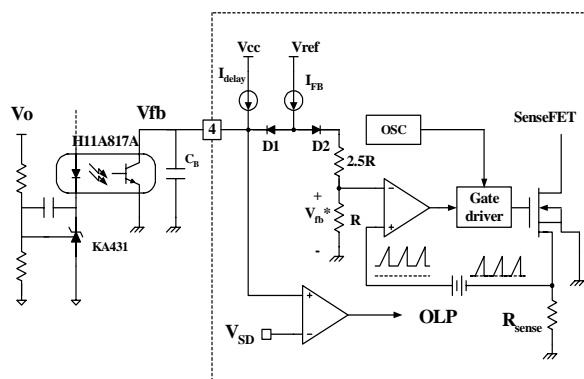

Figure 11. Pulse width modulation (PWM) circuit
**3. Feedback Control :** FSCQ1265RT employs current mode control, as shown in Figure 11. An opto-coupler (such as the H11A817A) and shunt regulator (such as the KA431) are typically used to implement the feedback network. Comparing the feedback voltage with the voltage across the  $R_{sense}$  resistor plus an offset voltage makes it possible to control the switching duty cycle. When the reference pin voltage of the KA431 exceeds the internal reference voltage of 2.5V, the H11A817A LED current increases, thus pulling down the feedback voltage and reducing the duty cycle. This event typically happens when the input voltage is increased or the output load is decreased.
**3.1 Pulse-by-pulse current limit:** Because current mode control is employed, the peak current through the Sense FET is limited by the inverting input of PWM comparator ( $V_{fb}^*$ ) as shown in Figure 11. The feedback current ( $I_{FB}$ ) and internal resistors are designed so that the maximum cathode voltage of diode D2 is about 2.8V, which occurs when all  $I_{FB}$  flows through the internal resistors. Since D1 is blocked when the feedback voltage ( $V_{fb}$ ) exceeds 2.8V, the maximum voltage of the cathode of D2 is clamped at this voltage, thus clamping  $V_{fb}^*$ . Therefore, the peak value of the current through the Sense FET is limited.